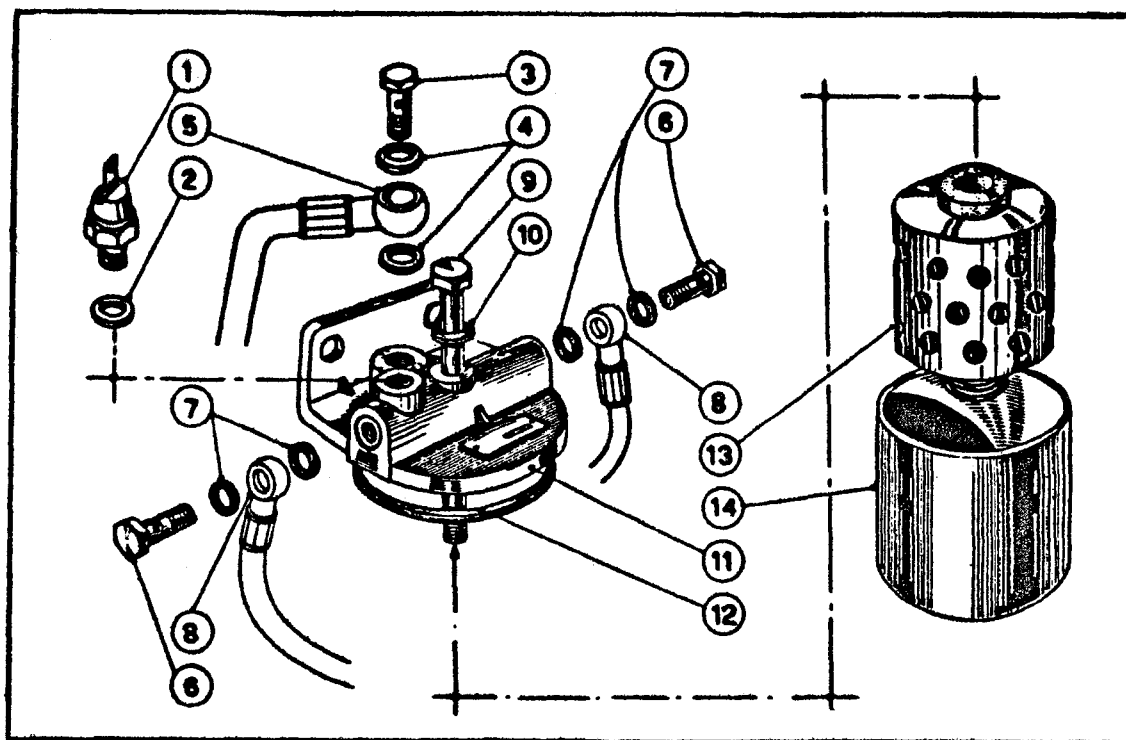

Fig. 4 - Main fuel filter
- Make sure that the diameter of the outlet hole of the breather and fuel return banjo union (5 - fig.4) fitted to the main filter is not greater than 0.5 mm (0.0197").
Overhaul (fig. 4)